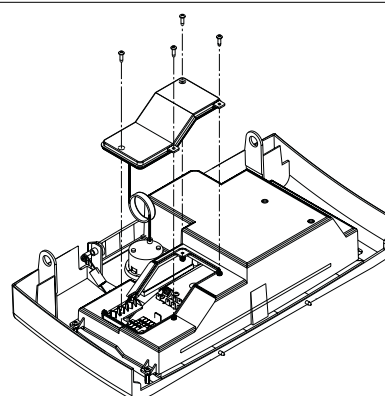

Fig. 13B
- remove the 4 screws securing the input board cover (fig. 13B).